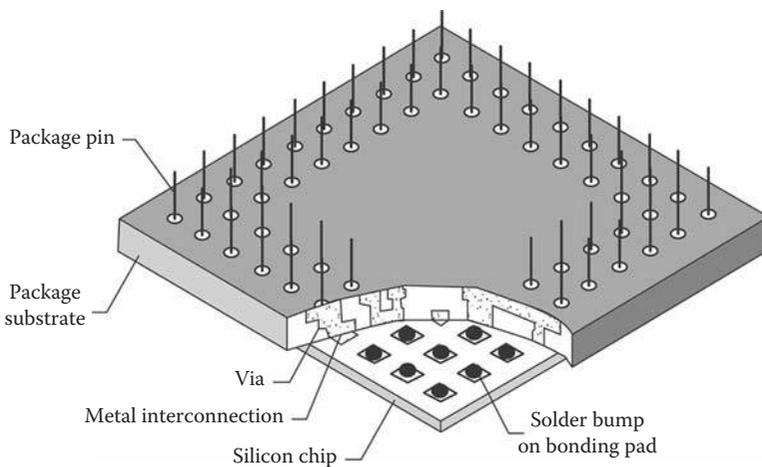

FIGURE 7.57
Flip-chip is just what it says. On the die, open the bond pads and then deposit solder balls (Figures 7.57 and 7.58). Now flip the chip upside down (hence the name), align it to the metal pads on the package, and gently heat it so that the solder ball fuses to the package. Done. Why bother? Well, several reasons: (1) Using flip-chip, I can populate solder balls literally all over the surface of the IC, not just around the edges, so the pin density can be very high indeed, and (2) flip-chip is especially useful for minimizing the parasitics associated with the connection. That is, in a classical wirebond, the parasitic inductance and resistance of the gold bond wire itself, although tiny, are actually large enough to cause major headaches for high-speed circuits (especially RF circuits; think smartphones).